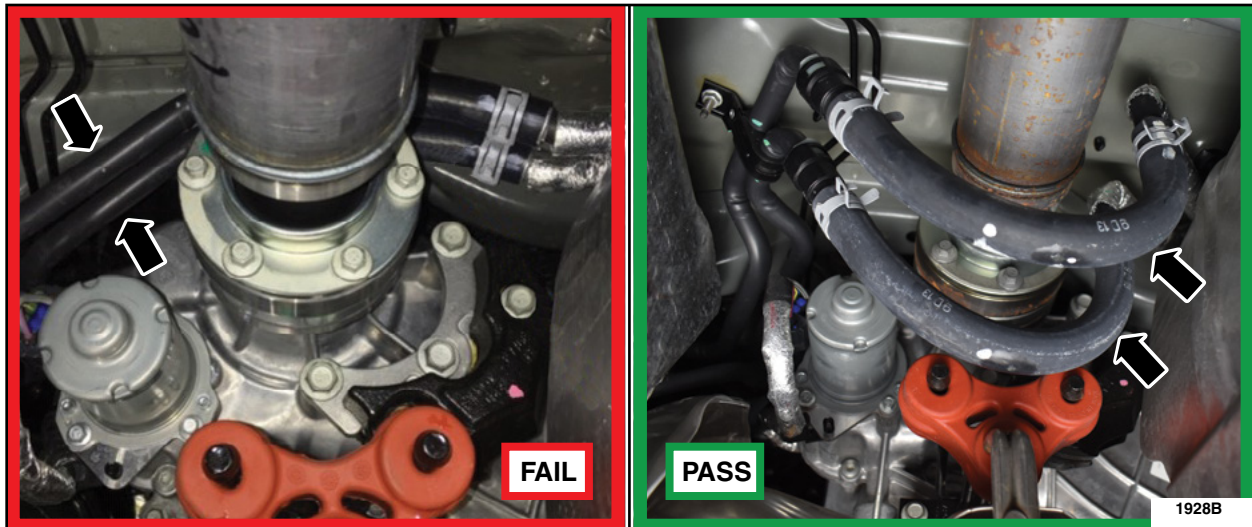

FIGURE 2
3. Inspect the rear heater coolant lines. See Figure 2.